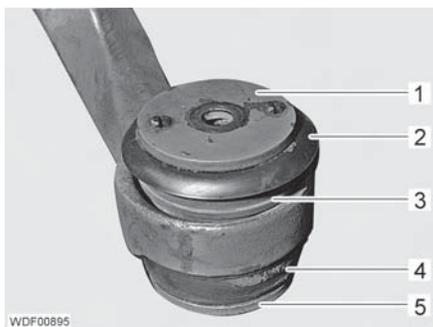

Fig. 64 Rubber buffer
- Remove the washer (Fig. 64,1).
- Remove cap (Fig. 64,2) and lower section (Fig. 64,5).
- Detach the rubber buffer (Fig. 64,3 and 4).
- Push in the lower section (Fig. 64,5) and cap (Fig. 64,2).
- Fit the washer (Fig. 64,1) onto the cap.